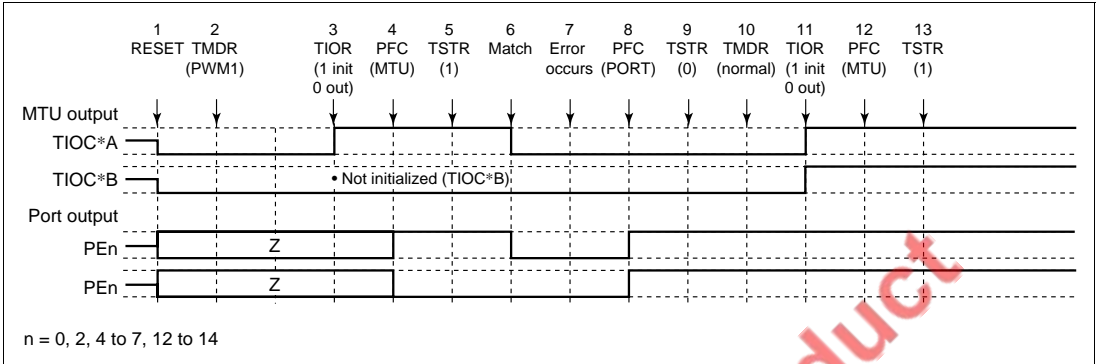

Figure 8.52 Error Occurrence in PWM Mode 1, Recovery in Normal Mode
(4) Operation when Error Occurs during PWM Mode 1 Operation, and Operation is Restarted in Normal Mode: Figure 8.52 shows an explanatory diagram of the case where an error occurs in PWM mode 1 and operation is restarted in normal mode after re-setting.
1 to 9 are the same as in figure 8.52.